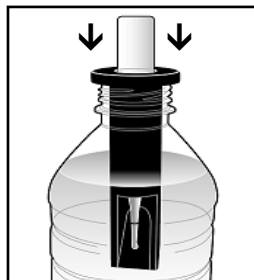

Figure 3
4. Place the Vacu-vial ampoule used in Step # 1 above, tip first, into the snapper. Open the bottle of water to be tested and place the snapper with ampoule into the bottle (fig. 3).